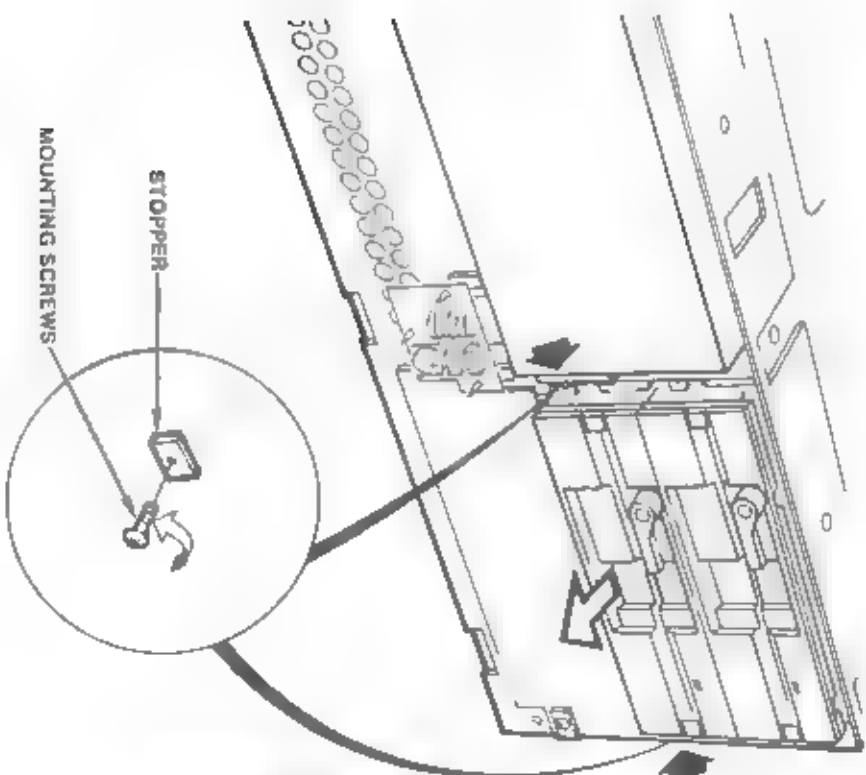

Figure 11-20. Drive B Removal
4. If you have two flexible diskette drives, remove the cover diskette drive (drive B). Unhook all cables. Remove the two mounting screws on either side of the tape drive. Slide the diskette drive out of the slot (Figure 11-20).